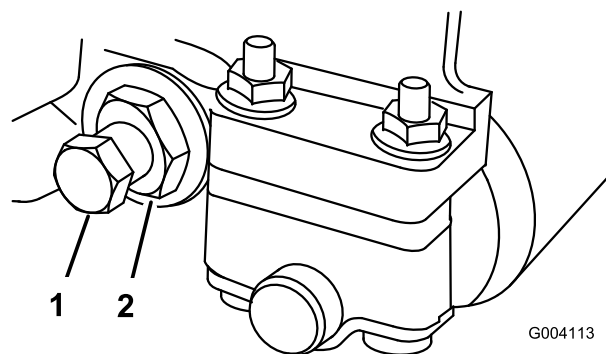

Figure 60
2. Back out the spring tension nut, until the washer is no longer tensioned against the bedbar (Figure 60).
3. On each side of the machine, loosen the jam nut securing the bedbar bolt (Figure 60).